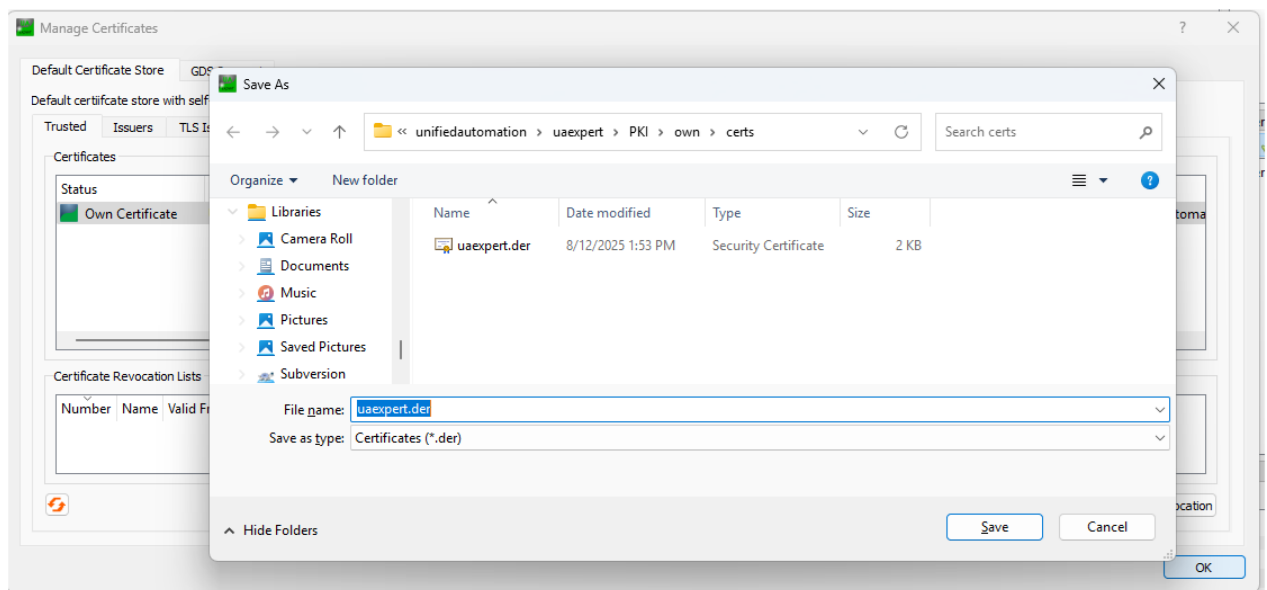

Figure 3-12: Save As dialog box
11. Click the **Copy Application Certificate To...** button to open the **Save As** dialog box. (Figure 3-12)